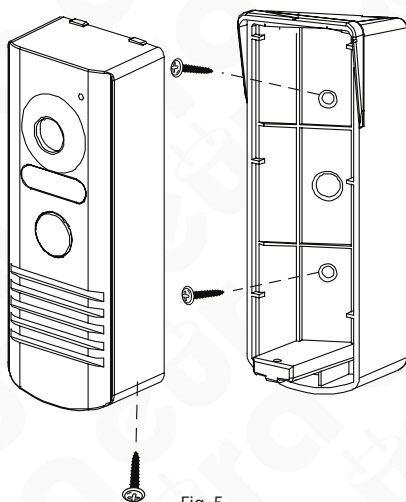

Fig. 5.
1. Unscrew the lower mounting screw and separate the outdoor module cassette from the protective canopy (Fig. 5).